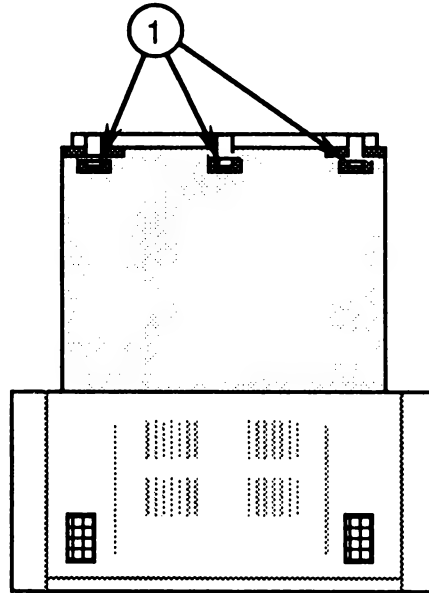

FIGURE 45
6. Fit the rear panel over the three rear control knobs, making sure the plastic "teeth" on the panel fit into the openings in the bottom of the metal chassis (Figure 45, #1).